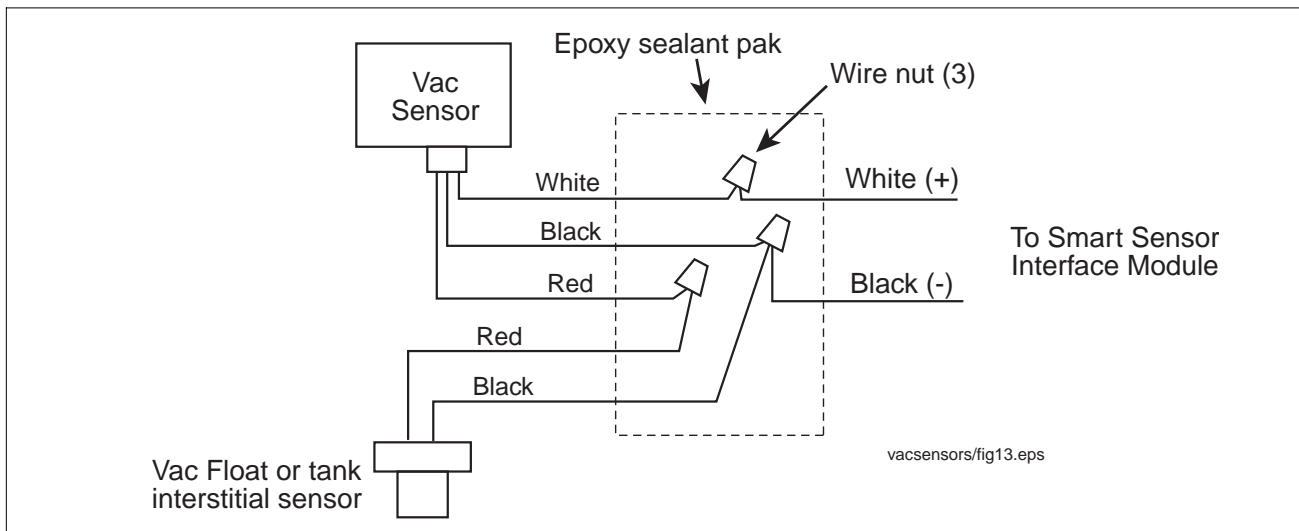

Figure 14. Field wiring connections
4. Strip back the leads of one of the cables from the TLS Console 3/8". Strip back the leads of the Vac Sensor/Vac Float pairs 3/8". Using wire nuts from the kits attach the wires as per the diagram in Figure 14. NOTE: the Vac Sensor cable has three wires and the Vac Float cable has two wires.